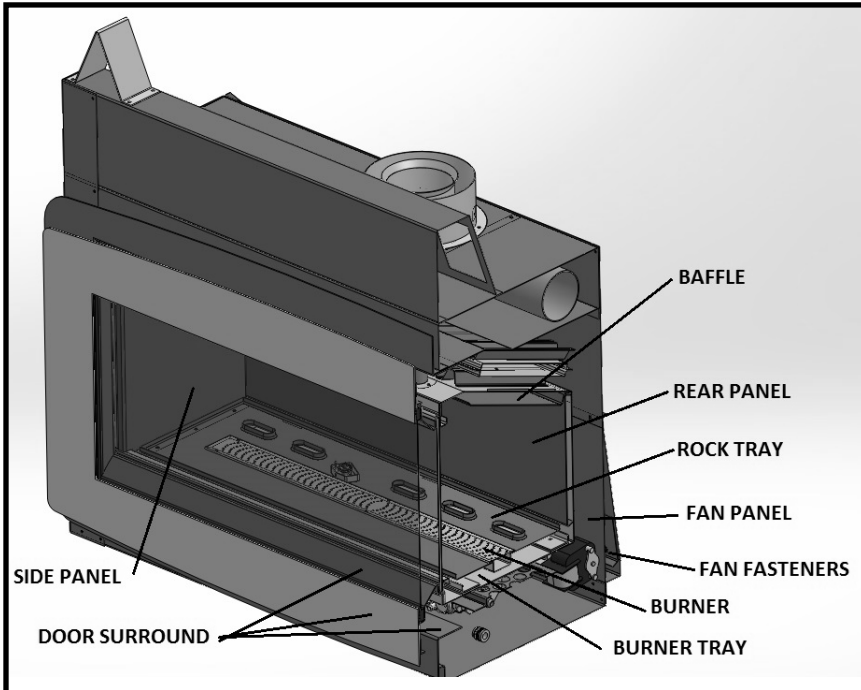

Figure 40: Fan installation and removal.
1. Remove door surround and glass frame with the glass as seen in Figure 40.
1. Remove fan panel at the rear side of the fireplace as seen in Figure 40.